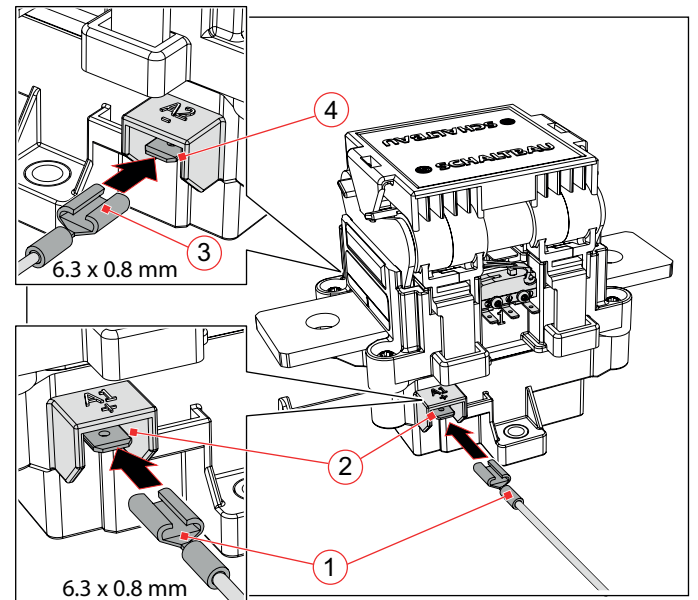

Fig. 17: Creating coil connections (the figure shows C310A, the procedure is identical for C310K and C310S)
- ▶ Move and route the control wires and receptacles only in the direction of plugging, see **Fig. 17**.
- ▶ Plug the prepared control wires with the receptacles (1/3) to both coil terminals A1+ (2) and A2- (4).